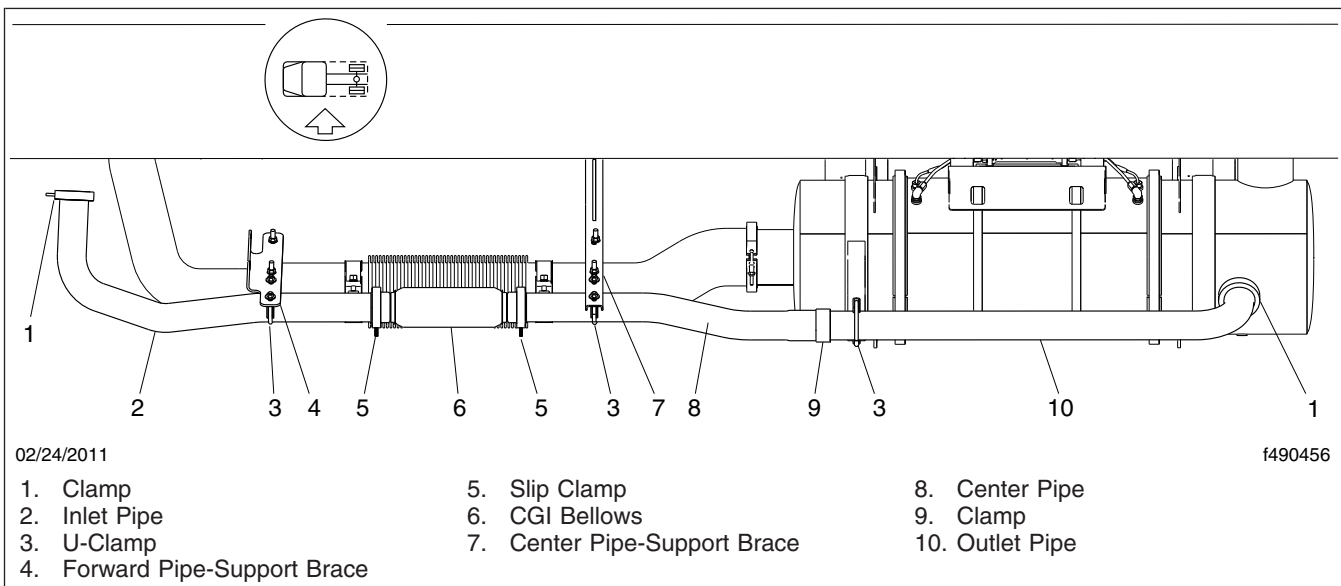

Fig. 5, CAT EPA07 Exhaust Installation with CGI Bellows
- On vehicles with CAT engines, inspect the CGI bellows and piping for evidence of damage or leakage. See Fig. 5. If the bellows is damaged or leaking, replace it. See 49-02 for the replacement procedure.
See **Fig. 5**.